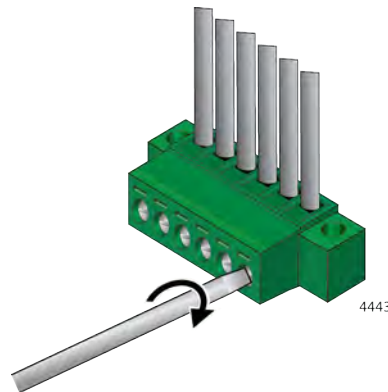

Figure 46. Tighten Wires In Power/Alarm Connector
8. Tighten the retaining screws on the power/alarm connector to secure the wires to a torque value 7 in.-lb Refer to Figure 46.